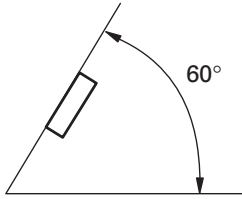

Fig. 3
- If installation angle exceeds 60° from horizontal, the unit might not give its optimum performance. (Fig. 3)